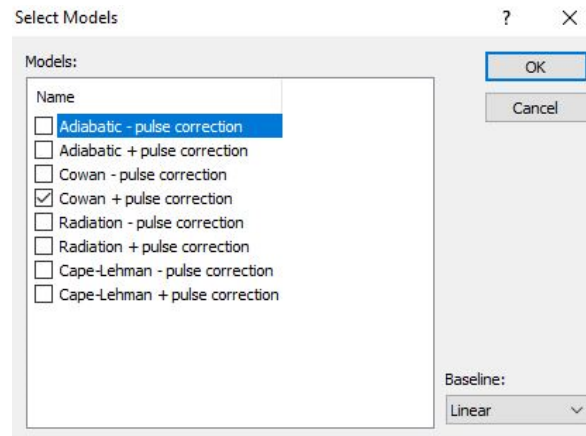

Figure 39. Select Cowan + pulse correction model.
- Check the Cowan + pulse correction model and select OK (as shown in Figure 39).